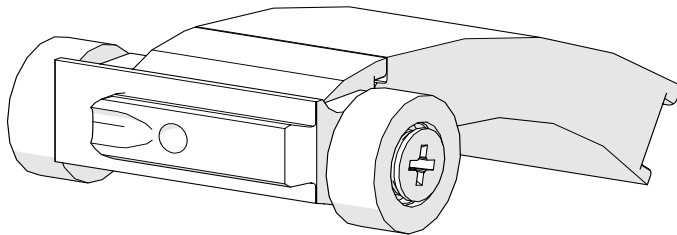

Fig. 100 - Connected link and wheel link
3. When the links are flush and you feel/hear the spring plunger click, the links are properly connected (Fig. 100).